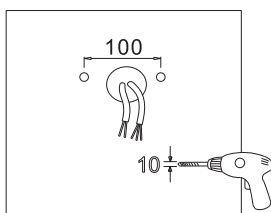

Figure 9
2. YOKE MOUNTING (YM)
Step 1: Drill holes on the wall as shown. (Figure 9)